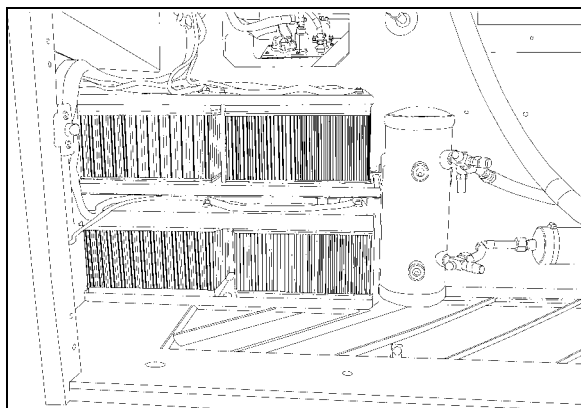

FIGURE 8: LOCATION OF BATTERIES IN CONDENSER COMPARTMENT
The vehicle is provided with four (4) maintenance-free 12 volt heavy-duty batteries connected in series-parallel (Fig. 8 & 11). The top-mounted negative and positive terminals are tightly sealed to prevent leaks. Water never needs to be added to this type of battery. There are no filler caps in the cover. The battery is sealed, except for small vent holes in the cover. The vents must not be restricted as they allow small amounts of gases produced in the battery to escape. The special chemical composition inside the battery reduces gassing to a very small amount at normal charging voltages. Besides reducing gassing, the special chemistry
1. Remove the two quarter turn nuts to remove the protective cover (Fig. 8)